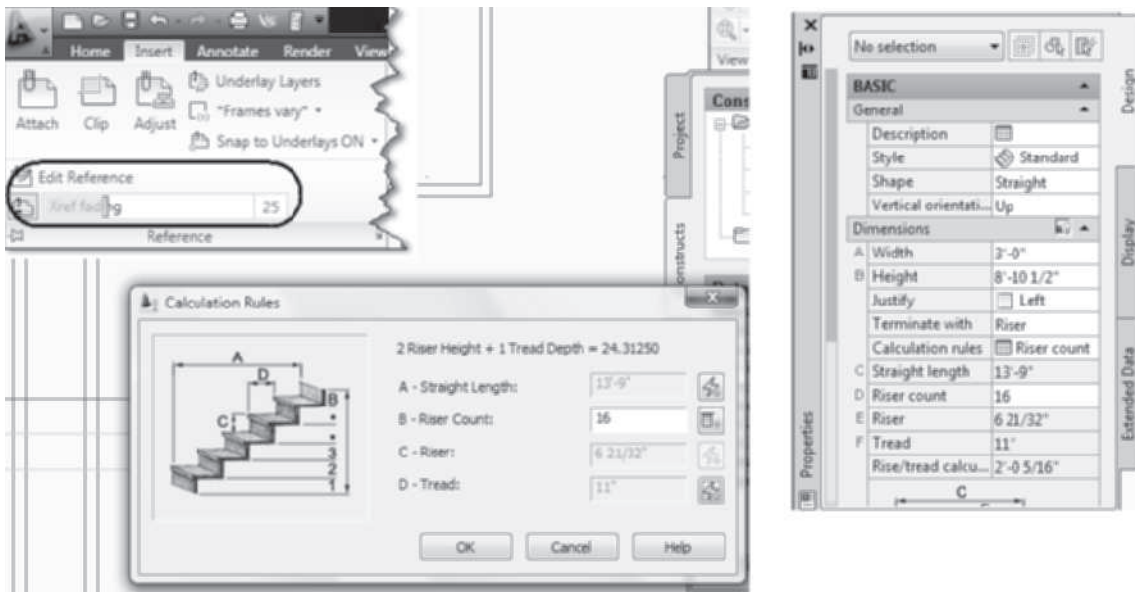

FIGURE 9.63 Calculation Rules dialog box
9. In this step, you will fade the display of the reference file. Choose Insert tab. Expand the Reference panel and choose the Xref fading slide bar and adjust to 25 as shown in Figure 9.63 to fade the display of the walls in the reference file.
= **16**, and verify that other fields are set to **Automatic** as shown in Figure 9.63. Click **OK** to dismiss the **Calculation Rules** dialog box. In the Advanced section verify Floor Settings are A-Top Offset = **0** and C-Bottom Offset = **0**. Verify that the Flight Height: Minimum limit = **None** and Flight Maximum limit = **None**. Respond to the following workspace prompts: